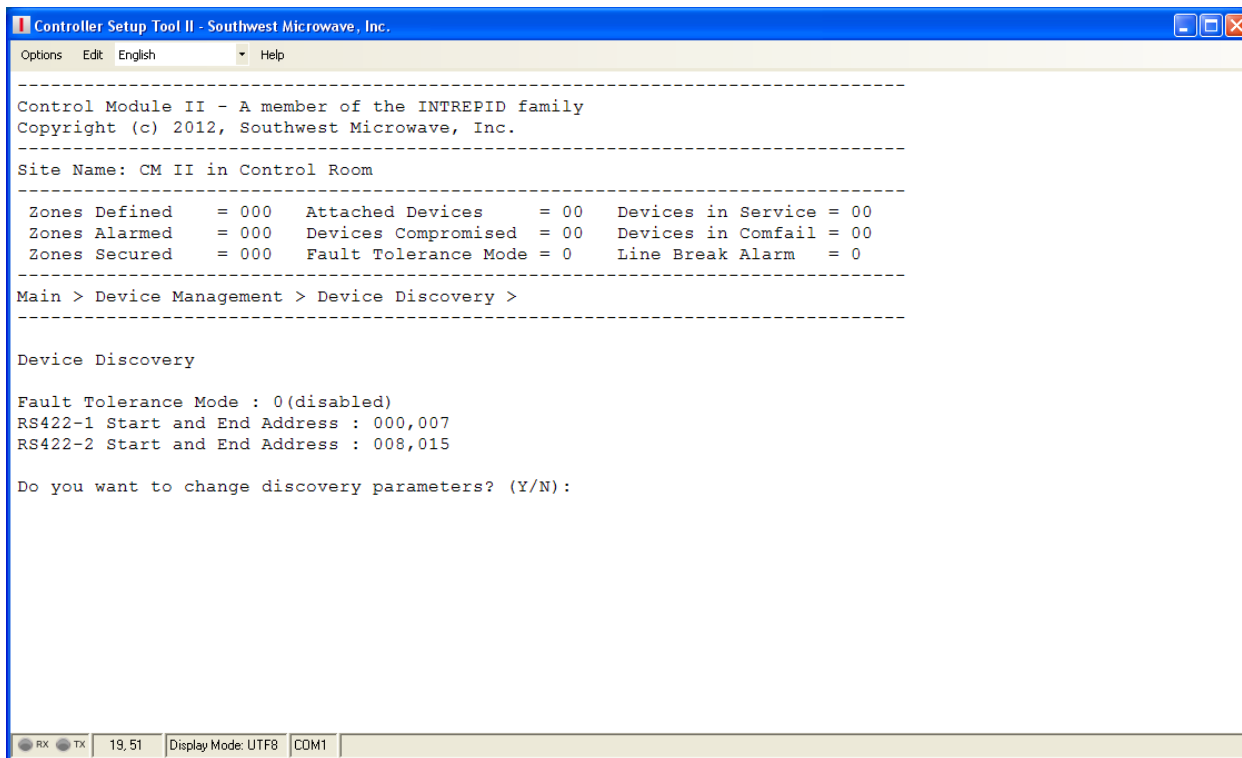

Figure 21 – Device Discovery Screen
Selecting command 1 will open the “Device Discovery” screen as shown in Figure 21. The Device Discovery function will poll all addresses in the range from 0 to 239. The default setting has the Fault Tolerance Mode disabled and the address range set from 000 to 007 on port RS422-1 and from 008 to 015 on port RS422-2. The CM II can have a maximum of sixteen (16) devices connected. The discovery parameters can be changed at this time by entering “Y” for Yes and enter. Entering “N” for No will not change the default settings.